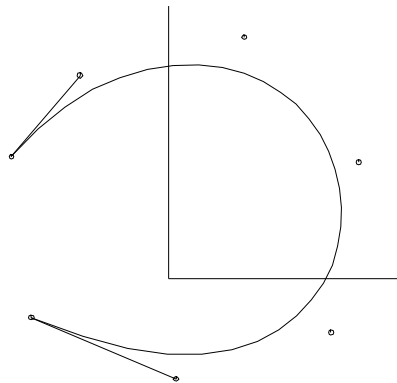

Fig. 1
- 7 **Press <F4>** to make another Line (Fig. 1). The ends of 'curve1' are tangent to 'line1' and 'line2'. This is one of the tangency principles of a B-spline Curve: it is tangent to the line between its end and next-to-end control points. This should match our distribution model TANGENT2.ms2.